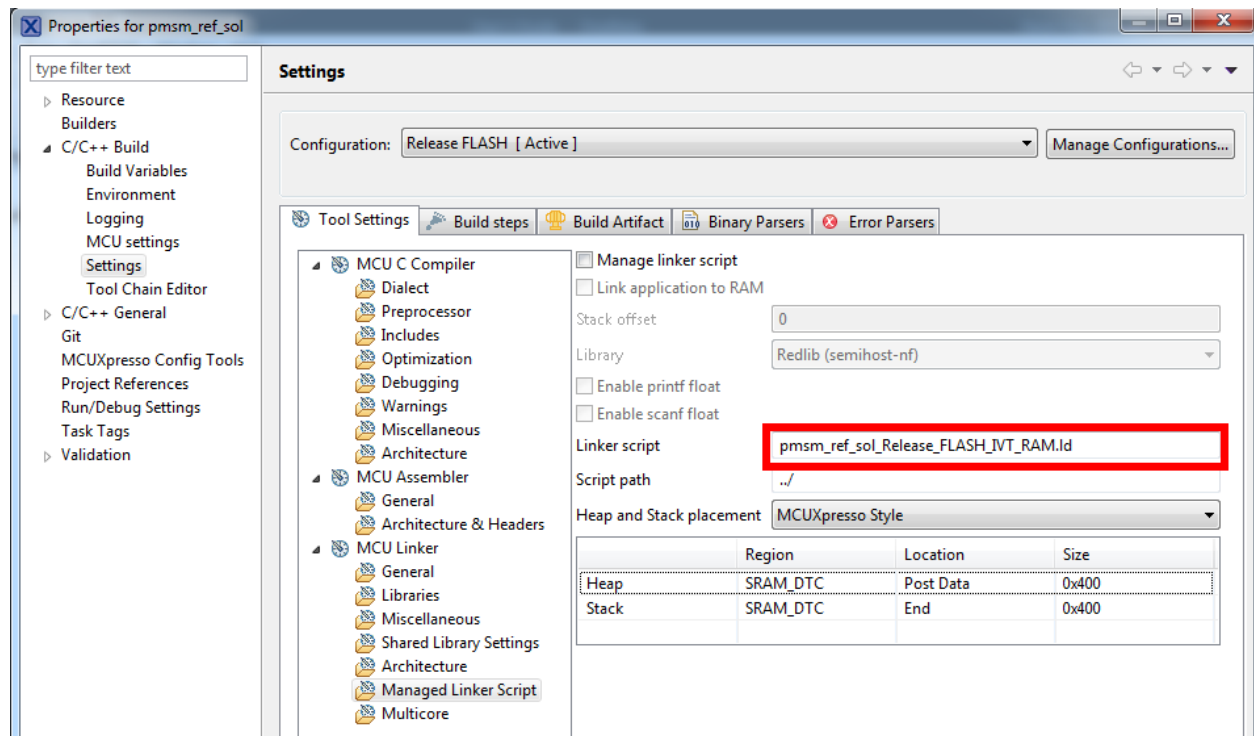

Figure 14. MCUXpresso linker file path
- Change the linker file path. Go to the “Project->Properties->C/C++ Build->Settings->Tool Settings” tab. Select “Managed Linker Script” in the list of the “MCU Linker” settings and find the “Linker script” text box. Change its value to “pmsm_ref_sol_Release_FLASH_IVT_RAM.ld” (see Figure 14).